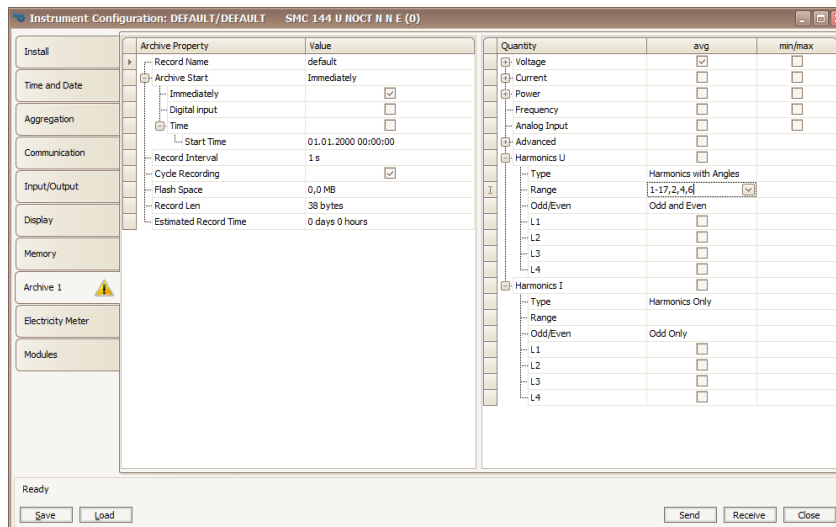

Figure 16: ENVIS.Daq - configuration of the recorded quantities for the main archive.
2.3.7 Main archive configuration (Archiv 1, fig. 16)